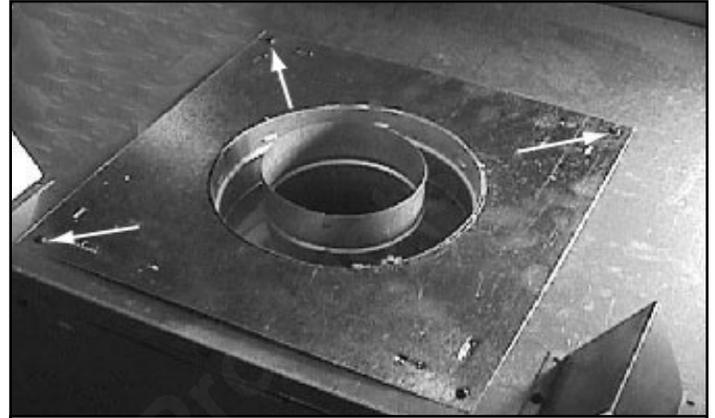

Figure 7.3 Cover Plate, Remove Screws
- Remove three remaining screws holding the plate surrounding flue. See Figure 7.3. Remove plate and set aside.